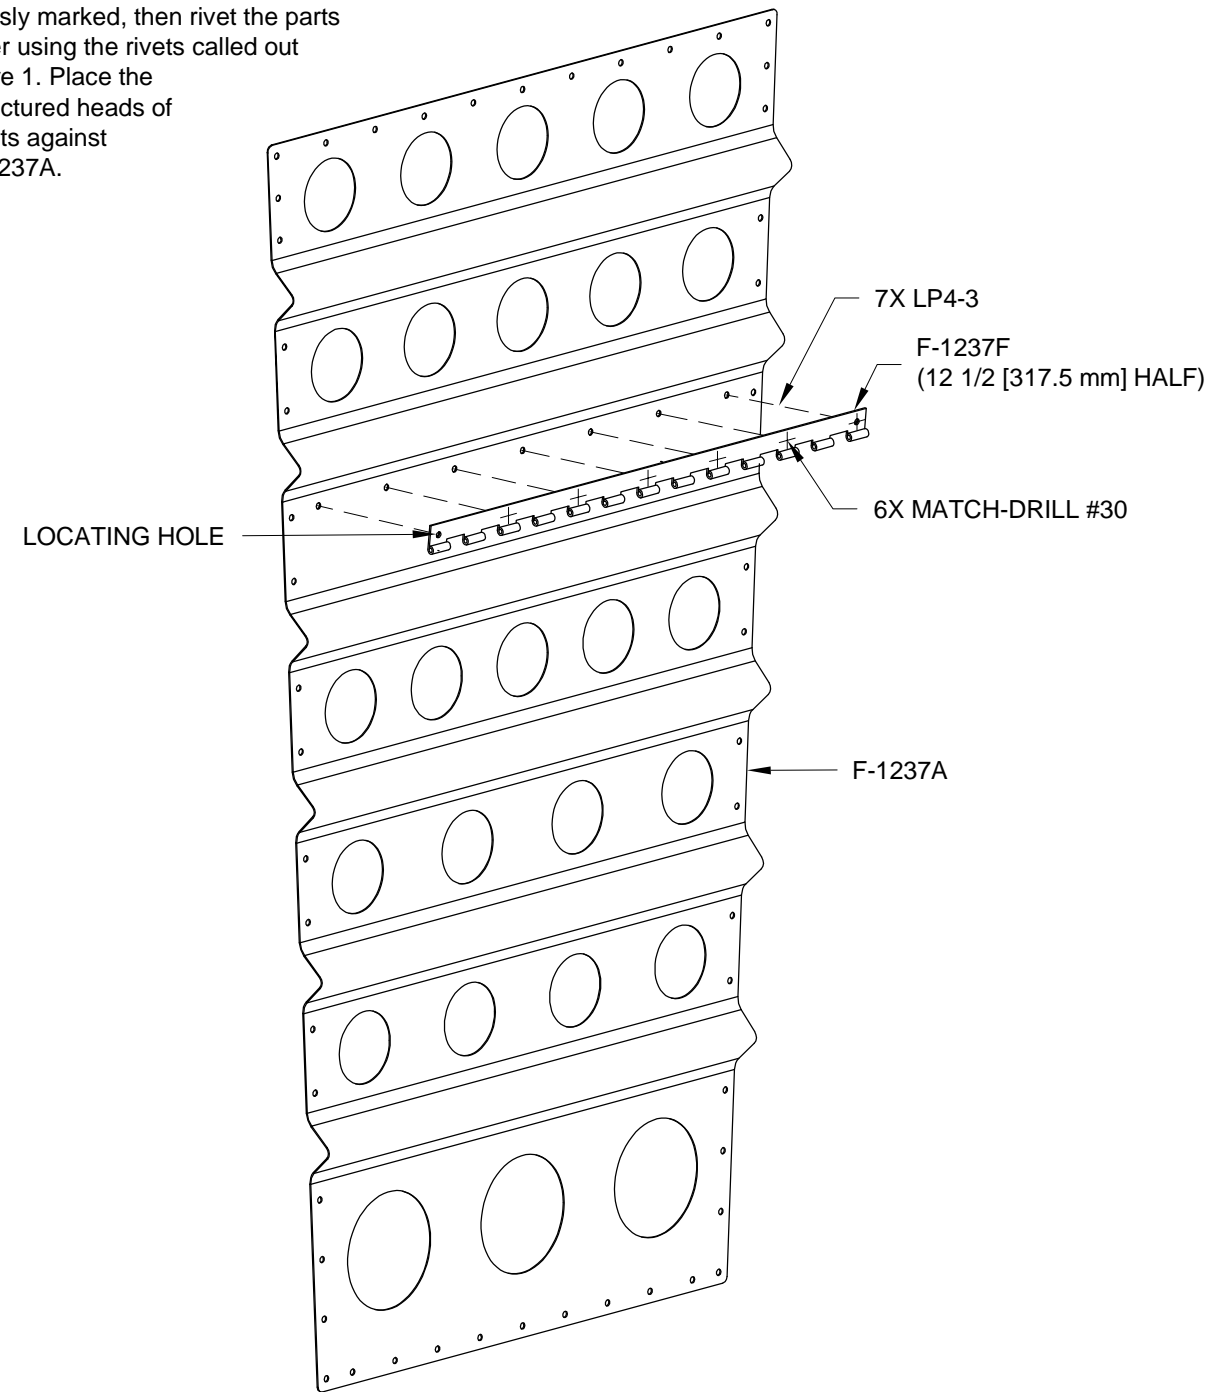

FIGURE 1: F-1237F PREPARATION AND RIVETING
Step 4: Cleco the F-1237F to the F-1237A as previously marked, then rivet the parts together using the rivets called out in Figure 1. Place the manufactured heads of the rivets against the F-1237A.